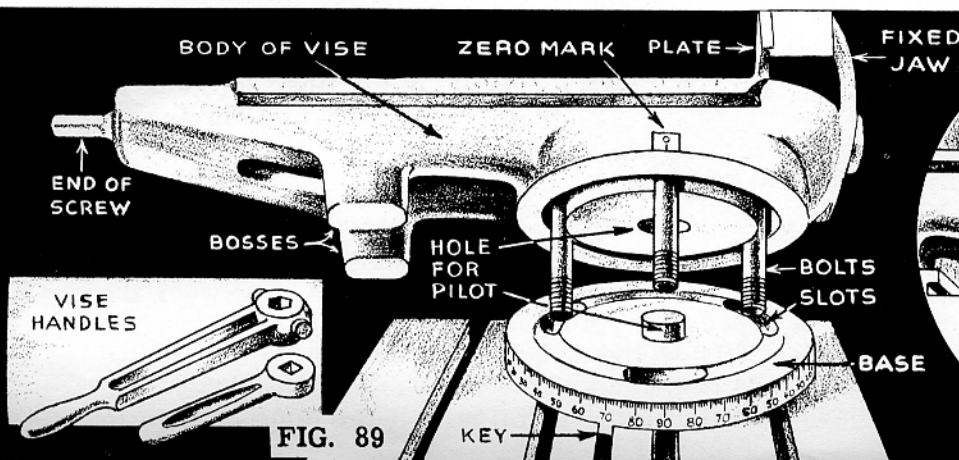
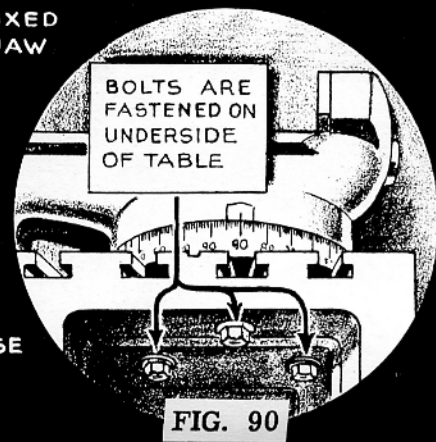
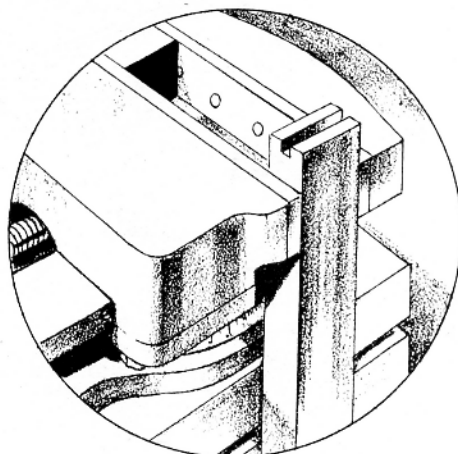

FIG. 89
FIG. 90
FIG. 94
The bases of the vises (Figs. 89, 91, and 92) are bolted to the table by either three or four bolts. The number of bolts used depend on the design of the base. The base is graduated through an arc of  $180^{\circ}$  with a zero (0) position on the left side, a zero (0) position on the right side, and with a  $90^{\circ}$  mark in the front, midway between the two zero marks (Fig. 89). On the underside of the base are provided square keys which fit into the table slots and which square the base on the shaper table.
The body of the vise is a semi-steel casting which fits on the base of the vise (Fig. 89). The heads of the bolts, which are free to slide, are held in a circular groove in the underside of the body. When the vise is being assembled, the bolts pass through holes in the base and holes in the table as shown in Fig. 90. Washers and nuts are placed on the bolts which extend into the openings and, when tightened, secure the vise and base to the table. When the nuts have been loosened, the vise can be swiveled to form any angle with the direction of the stroke. The pilot in the base provides a central point about which the body of the vise swivels (Fig. 89).
The vise (Fig. 89) has bosses which are cast on the underside of the vise body. The bosses provide additional support when wide pieces are held between the jaws or when the vise is used with the jaws at right angles ( $90^\circ$ ) to the direction of the cut. When the vise is in this position and the work is held vertically, the jaws should be offset to permit the ends of bars to be machined (Fig. 94).